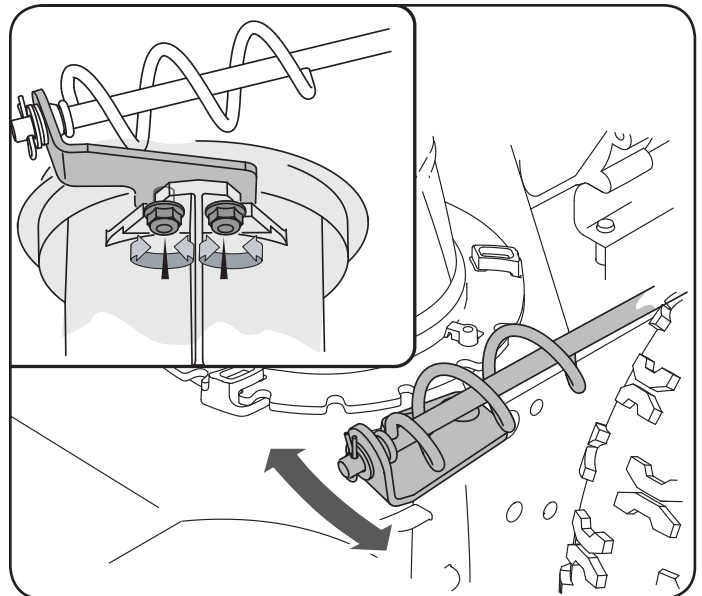

Figure 18
1. Loosen the two nuts which secure the chute bracket and reposition it slightly. See Figure 18.
1. Disconnect the chute crank assembly at the discharge chute end by removing the hairpin clip and the flat washer. See Figure 18.